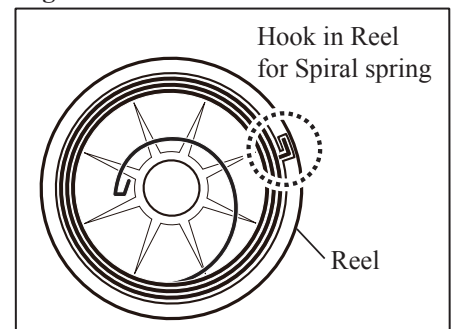
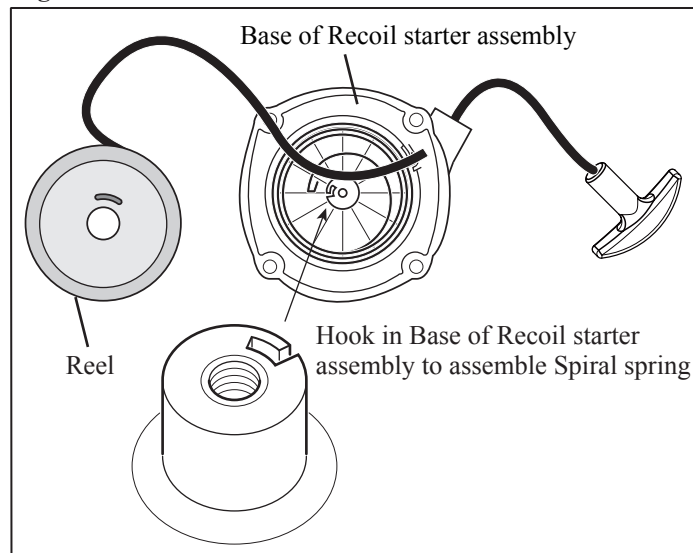

Fig. 39
Fig. 40
- (2) Apply a little amount of Makita grease N No.2 to the spring.
- (3) Make a knot on the new rope end and pass it through Reel and Base of Starter case assembly, then connect the other end to Starter knob. (Fig. 39) Refer to Fig. 40 how to make a knot of the rope.
- (4) Wind the rope around Reel two or three turns.
- (5) While turning Reel counterclockwise, fit it into the base of Starter case assembly and set Spiral spring end into the hook on inside of the base. (Figs. 39)